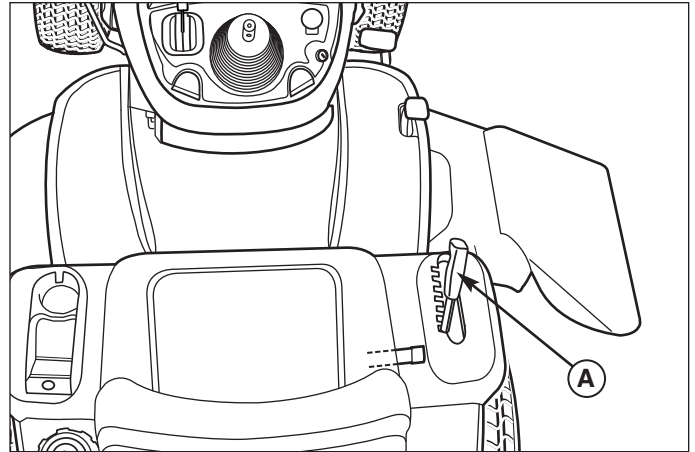

Figure 7. Raising & Lowering Mower
2. Place mower height adjuster in the lowest cutting position. Place the mower lift lever (A, Figure 7) in the lowest position. Slide mower deck under right side of tractor so that mower hitch is aligned with the front tractor hitch.
The mower lift lever (A, Figure 7) controls the mower cutting height. The cutting height has seven positions between approximately 1-1/4" and 4" (3,2-10 cm).